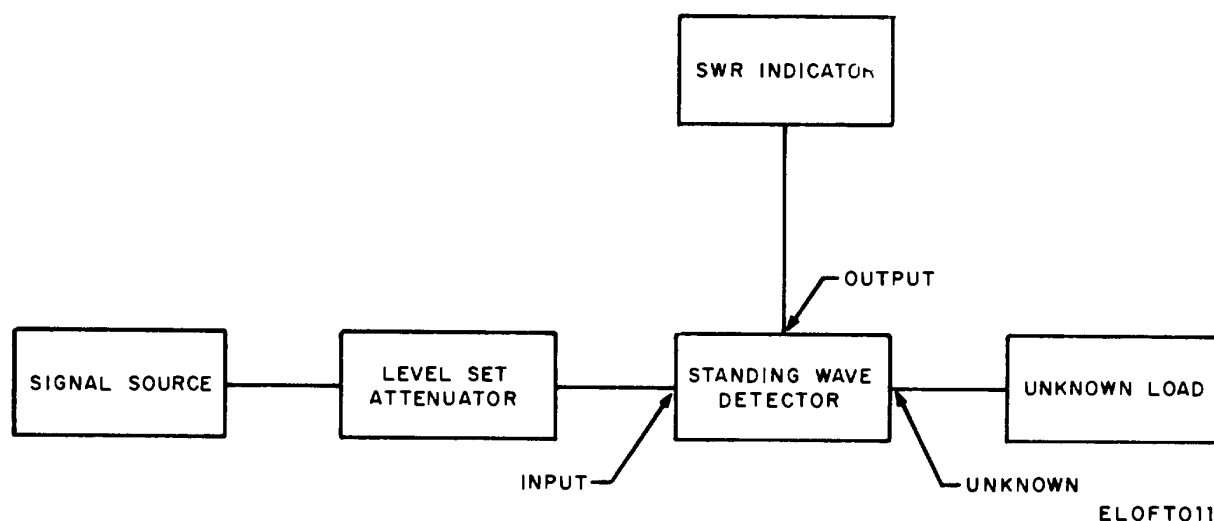

Figure 5-1. Test setup for making VSWR measurements using the standing wave detector technique.
- a. Connect the test equipment as indicated in figure 5-1. Typical equipment covering the frequency range from 10 MHz to 2.3 GHz is listed in table 5-1.